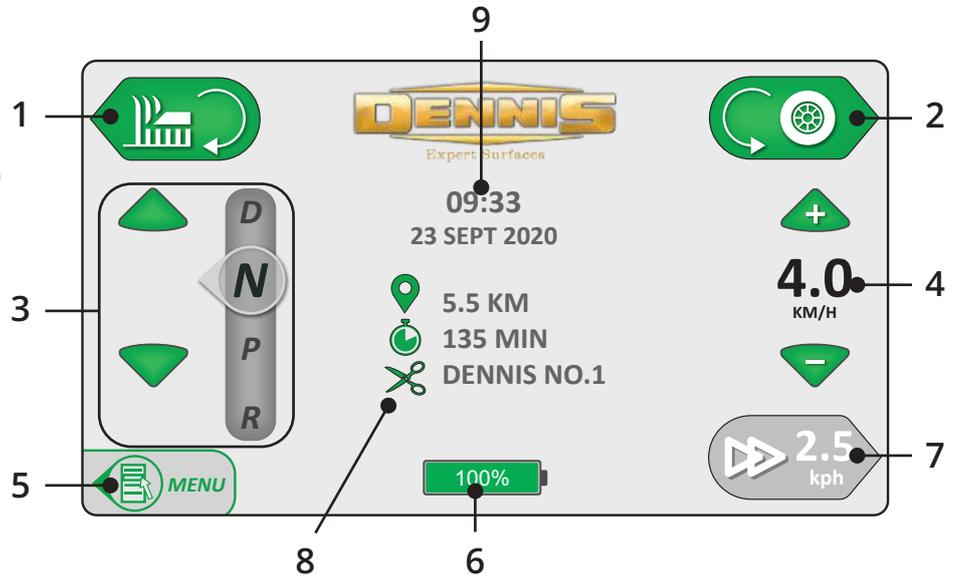

Fig. 5 - Home screen overview
On machine start-up it defaults to the Home Page (see Fig.5). From here you can view / action the following:
3. The display screen will show a start up sequence (Fig. 6C) until home screen appears (Fig. 5).